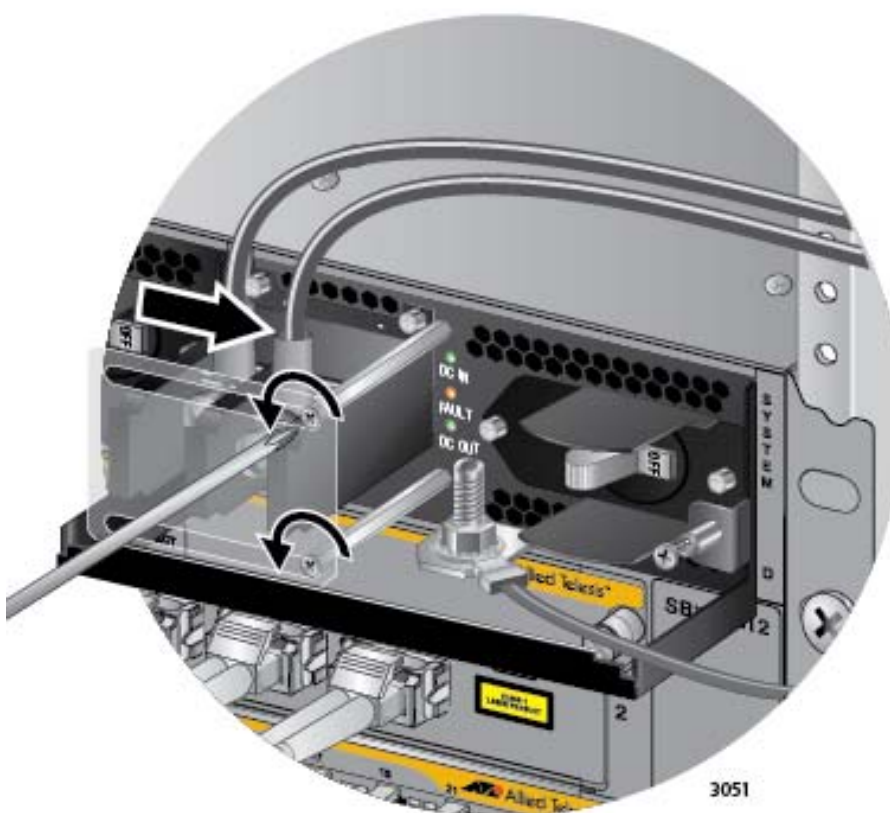

Figure 146. Opening the Plastic Window over the Terminal Block
4. Use a #1 screwdriver to loosen the two screws that secure the plastic cover over the terminal block and slide the cover to the right. You may need to slightly lift the locking handle to access the bottom screw. Refer to Figure 146.